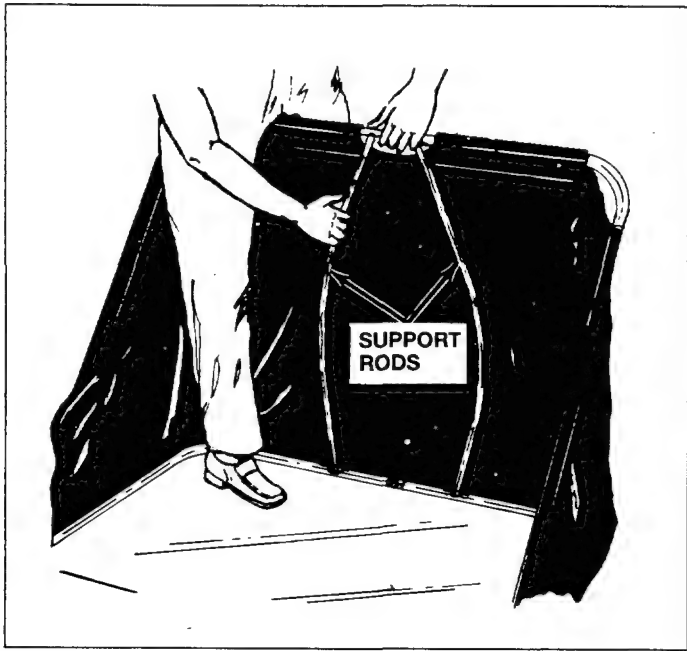

Fig. 21
11. Assemble the two hopper support rods as shown in figure 21. Place top end of rod into hole in upper tube and bend rod outwards and snap bottom end of rod into hole in bottom tube.